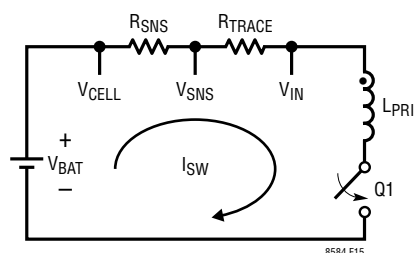

Figure 15. R_{TRACE} Minimization
5. Care should be taken when routing V_{CELL} , V_{SNS} and V_{IN} connections. R_{TRACE} in Figure 15 should be minimized for better efficiency. R_{TRACE} should never exceed $19 \cdot R_{SNS}$. This guarantees that the OUT pin amplifier headroom is sufficient enough for reporting the V_{SNS} amplifier output.